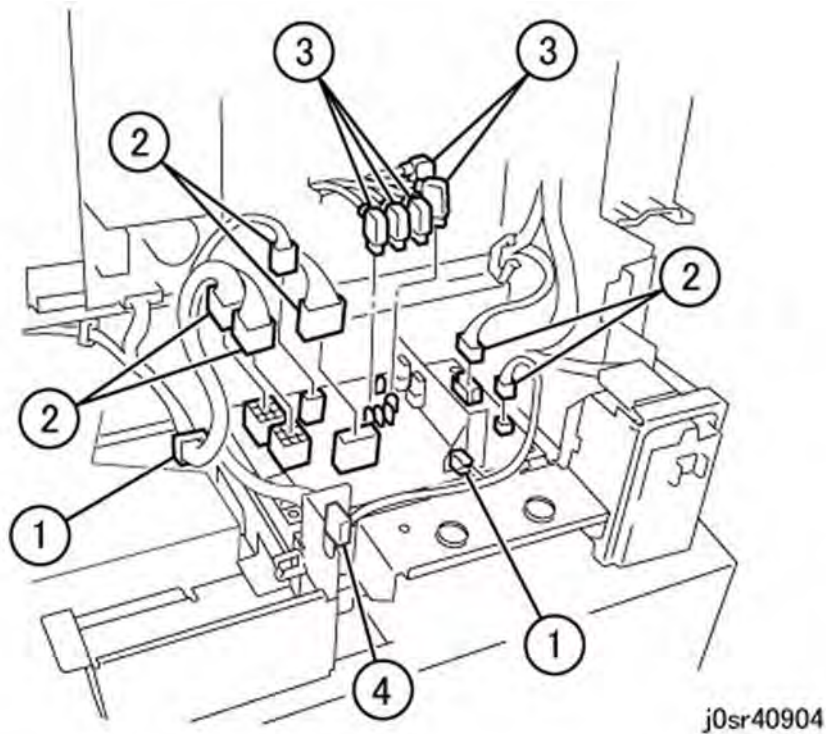

Figure 2 Removing AC Drive PWB
6. Remove the AC Drive PWB (Figure 2).